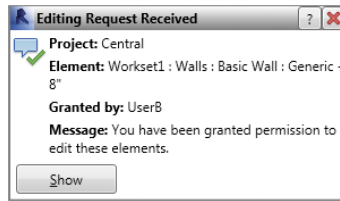

FIGURE 10.24 Granted confirmation
5. Lastly, UserA receives the confirmation dialog back that UserB has granted permission to edit the wall element (Figure 10.24).